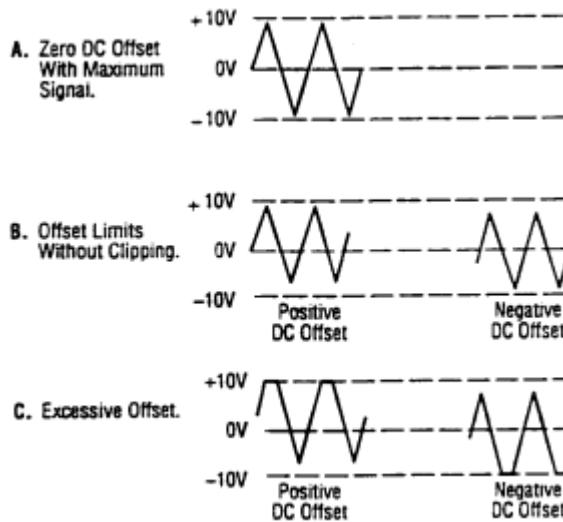

Figure 3. Use of DC OFFSET Control
6. Adjust the amplitude of the output as desired using the **OUTPUT LEVEL** control (10). Rotation of this control varies the amplitude from maximum to 20dB below maximum. An additional attenuation of -20dB is available by pushing in the **-20dB** switch (5). The attenuation factors can be combined for a total of -40dB. The maximum signal level is 10V p-p (into  $50\Omega$ ).
7. A DC component can be added to the output signal by pushing in the **DC OFFSET** switch (4) to enable operation of the **DC OFFSET** control (11). Rotation of this control adds a positive or negative DC component to the output signal. The DC component introduced is independent of the **OUTPUT LEVEL** control and can be varied by  $\pm 10$  volts open circuited or  $\pm 5$  volts into  $50\Omega$ . The DC Offset does not affect the **TTL/CMOS** output jack. The effect of DC OFFSET is shown in Fig. 3.
6. Remember that the output signal swing of the generator is limited to  $\pm 10$  volts open circuited or  $\pm 5$  volts into  $50\Omega$ , and applies to the combined peak-to-peak signal and DC offset. Clipping occurs slightly above these levels. Fig. 3 illustrates the various operating conditions encountered when using the DC offset. If the desired output signal is large or if a large DC offset is required, an oscilloscope should be used to make sure that the desired signal is obtained without undesirable clipping.